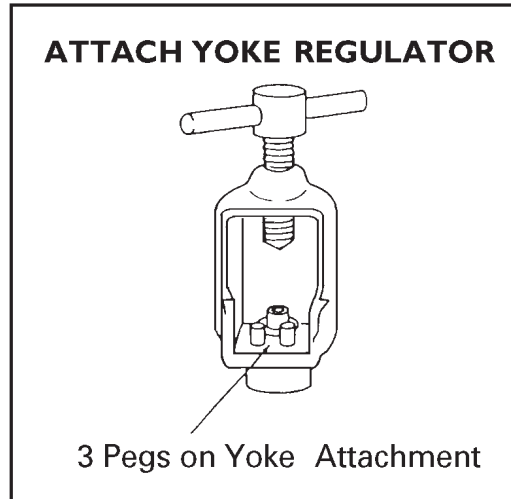

Figure 3-5. Yoke Regulator
b. Examine the yoke attachment and locate the three corresponding pins on the yoke attachment. (See Figure 3-5.)